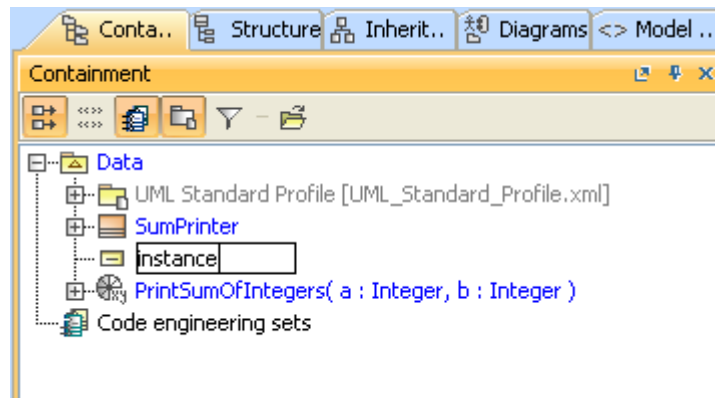

Figure 72 -- The Created InstanceSpecification in the Containment Browser
2. Name the created InstanceSpecification "instance" (Figure 72).